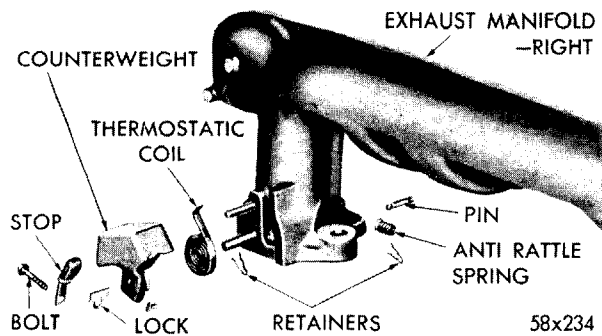
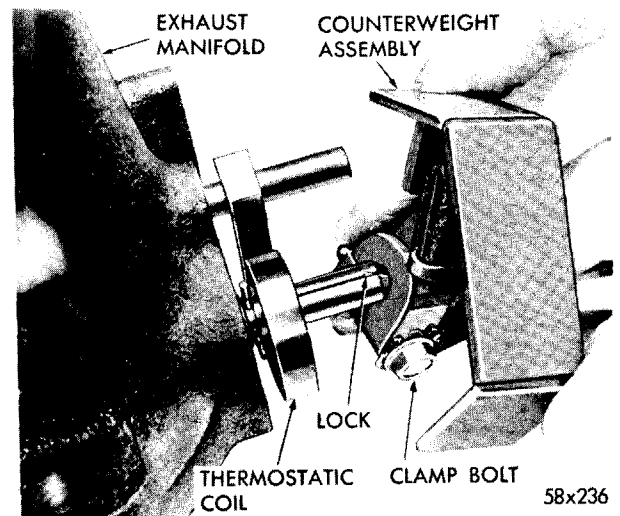

Fig. 8—Manifold Heat Control Valve (8 Cyl.)
Fig. 10—Installing Counterweight Assembly
Disassembly (Fig. 8)
(4) Place counterweight over shaft (with weight in upward position) and insert lock in shaft slot, as shown in Figure 10. Center counterweight on shaft and turn assembly clockwise until stop passes the pin. Press counterweight on shaft until seated, install stop, and tighten nut securely with Tool T-109-173. **If fabric on stop is worn, replace with new stop. (Fig. 8).** Test valve for proper operation.